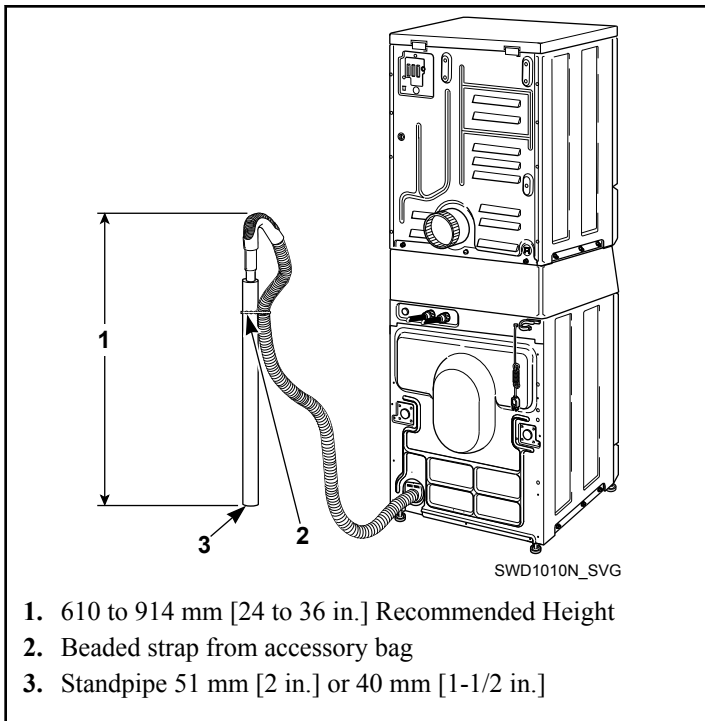

Figure 9
2. Remove the beaded tie-down strap from accessories bag and place around standpipe and drain hose. Refer to *Figure 9*.